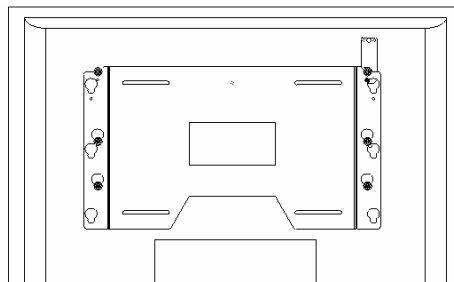

Figure 5
4. With the aid of another person, lift the display up to the Chief mount, aligning mounting buttons with the teardrop slots and setting into place (see Figure 5).